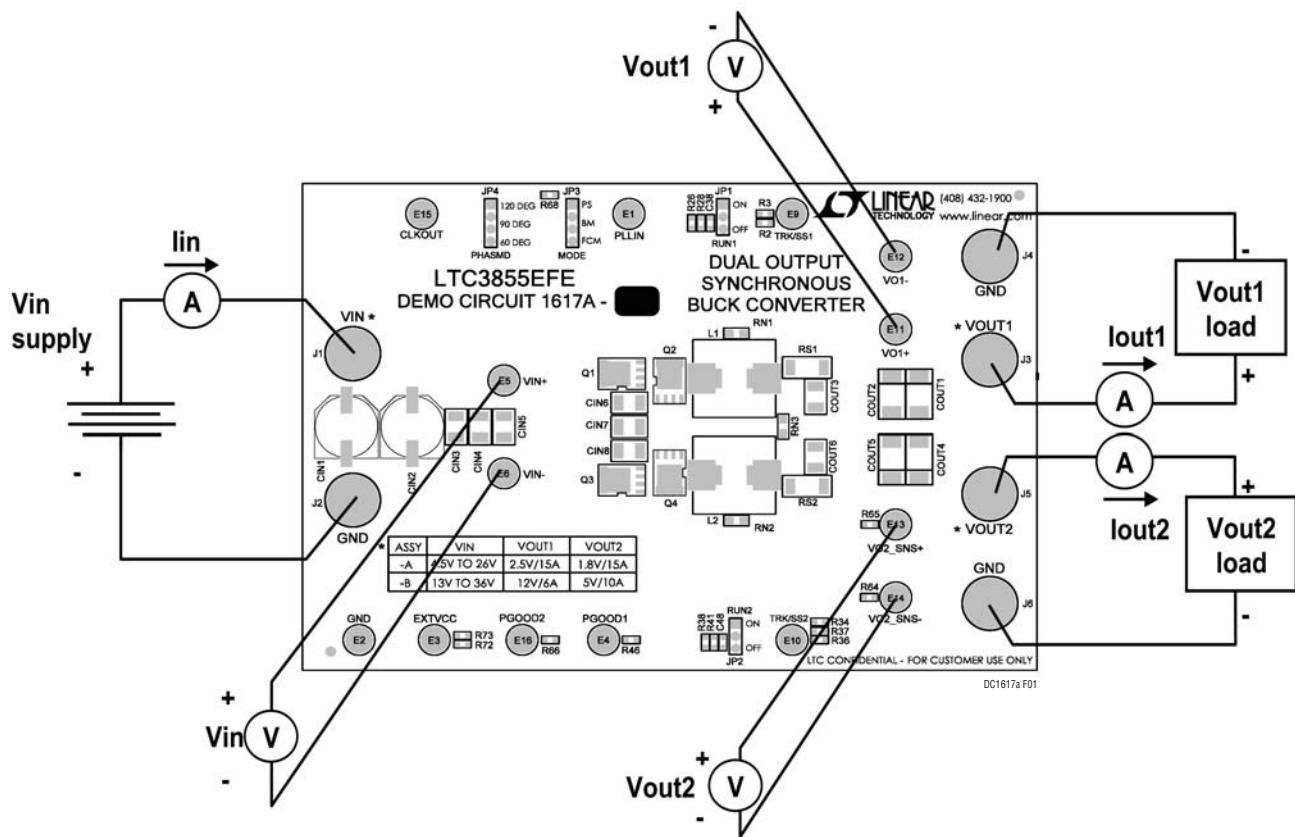

Figure 1. Proper Measurement Equipment Setup.
Demonstration circuit 1617A is easy to set up to evaluate the performance of the LTC3855EFE. Please refer to Figure 1 for proper measurement equipment setup and follow the procedure below.
- 1) With power off, connect the input supply, load and meters as shown in Figure 1. Preset the load to 0A and V_{IN} supply to be 0V. Place jumpers in the following positions: